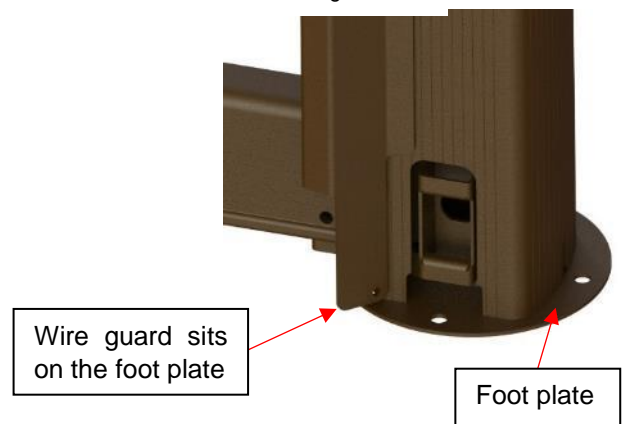

Figure 68
- 12) Align and position the bottom of the wire guard against the foot plate that lines up with the inner shell hole. (Figure 68)